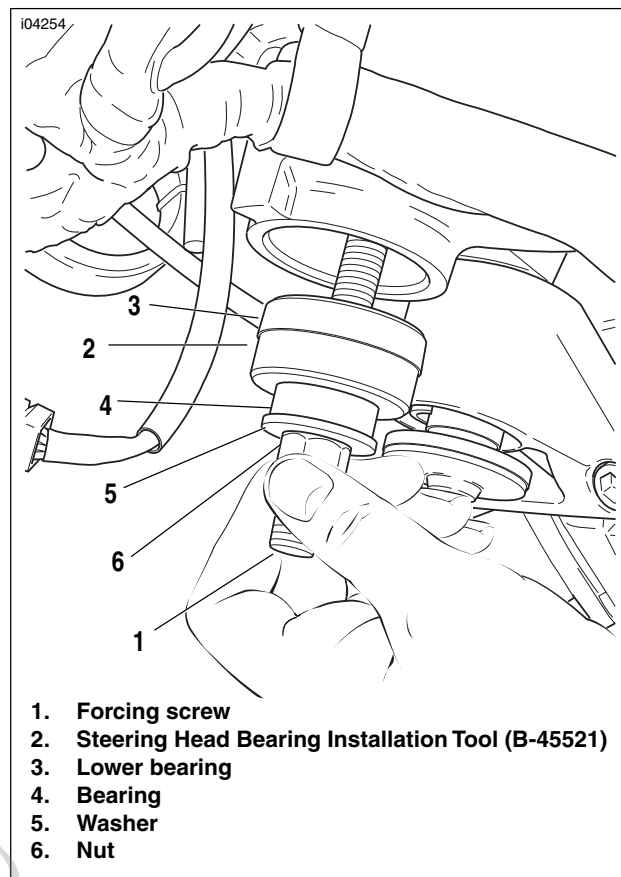

Figure 2-79. Lower Bearing
2. See Figure 2-79. Sparingly apply EXTREME PRESSURE LUBRICANT (Part No. J-23444-A) to the threads of the forcing screw (1) from the STEERING HEAD BEARING RACE INSTALLER (Part No. HD-39302), to prolong service life and ensure smooth operation. Insert the forcing screw (1) through the STEERING HEAD BEARING INSTALLATION TOOL (Part No. B-45521) (2).
4. Install the bearing (4), washer (5) and nut (6) from the STEERING HEAD BEARING RACE INSTALLER (Part No. HD-39302) onto the forcing screw (1).
5. Tighten the nut (6) by hand, until the bearing is started into the bore in the steering head.